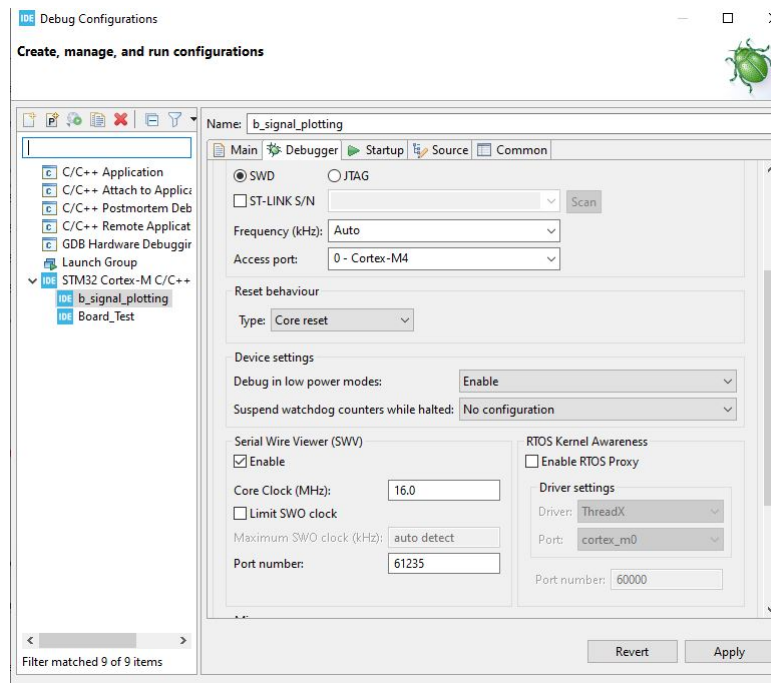

Figure 2.1: Enabling port to see global variable
- Right click on the project and select Debug as Stm32 cortex C/C++ Application as shown in Figure 2.1.